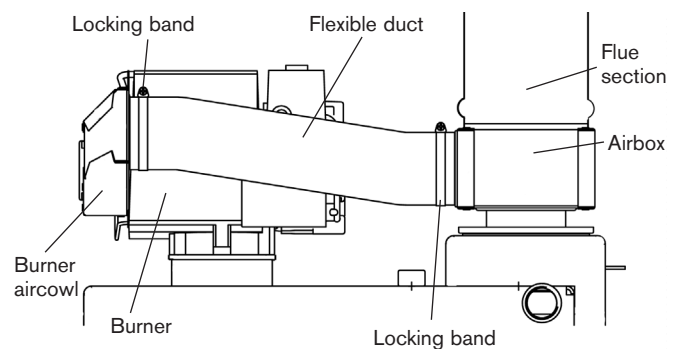

Fig. 7. Connection of the flexible air hose to the burner and air box
6.53. Fix the flexible duct between the burner and air box using the two locking bands provided within the kit. Tighten sufficiently to form a good seal. See Fig. 7. Note: If the flue assembly is taken apart after the appliance has been running the 80mm flue tube seals within the flue tubes should be replaced.